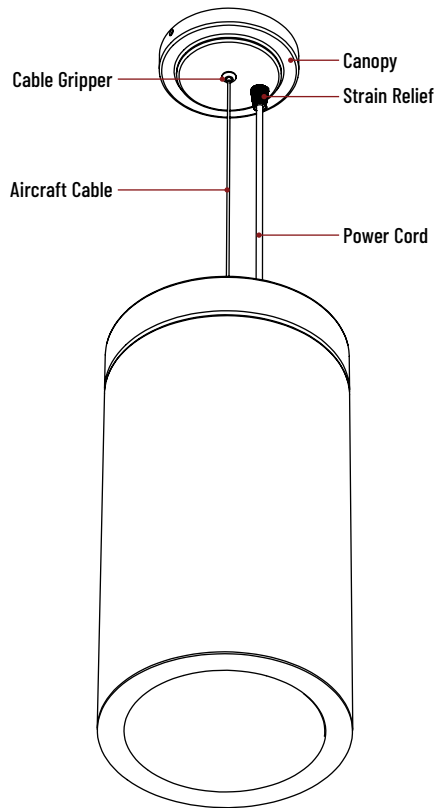

Figure 1
2. Loosen strain relief on power cord to adjust to desired length. (Figure 1)
3. Adjust aircraft cable length by depressing cable gripper. (Figure 1)